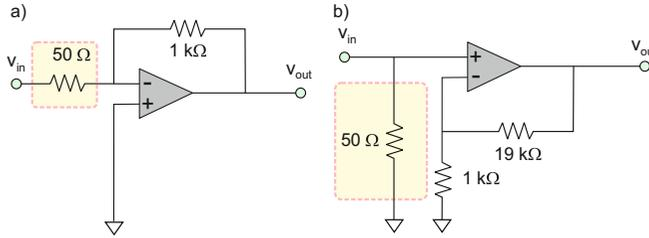

Fig. 5.22. Two possible amplifier configurations matched to a 50-Ω input resistance.
**Solution:** Two possible solutions are shown in Fig. 5.22. In the first case, we use the inverting amplifier; in the second case, a smart trick is employed: a non-inverting amplifier with a 50-Ω shunt resistor. You should note that the maximum power transfer will be achieved for the *entire* amplifier circuit, including the shunt resistor.